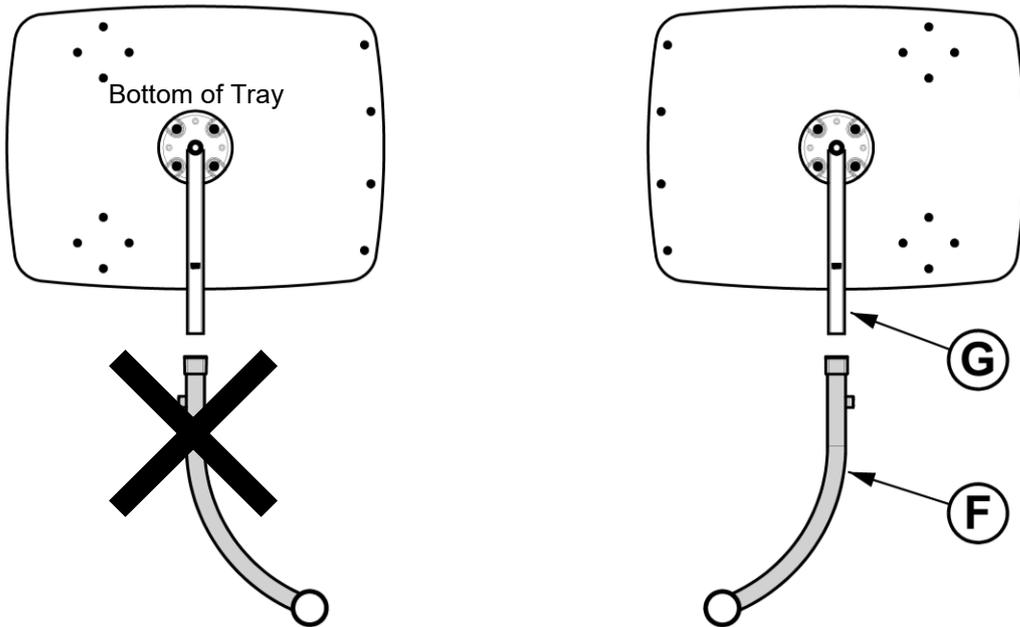

FIGURE 24
24. Slide Curved Arm F over support tube on Tray G until MAX marking is covered. Ensure Curved Arm F curves the correct direction as shown in the **Right** image in *FIGURE 24*.